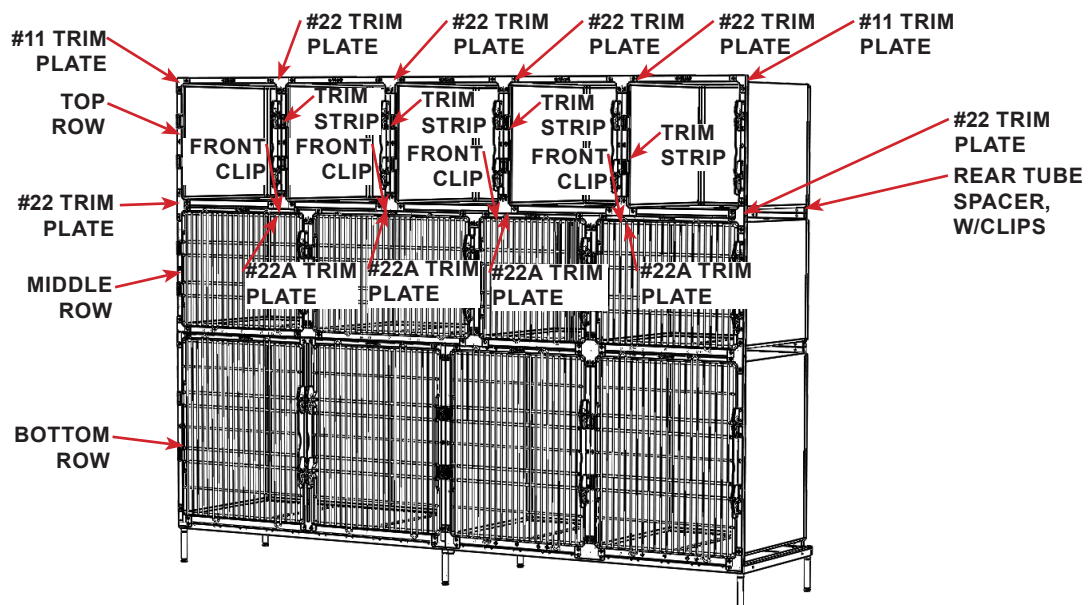

FIGURE 2.49 - Phase III Assembly Progress Illustration, Configurations Vary
**STEP 7:** Remove the screws and install, but do NOT fully tighten screws, the trim strips connecting the cage row together, as each cage is added to the row. See FIGURE 2.49
**STEP 8:** Remove the screws and install, but do NOT fully tighten screws, the trim plates connecting the top row to the row below. See FIGURE 2.49